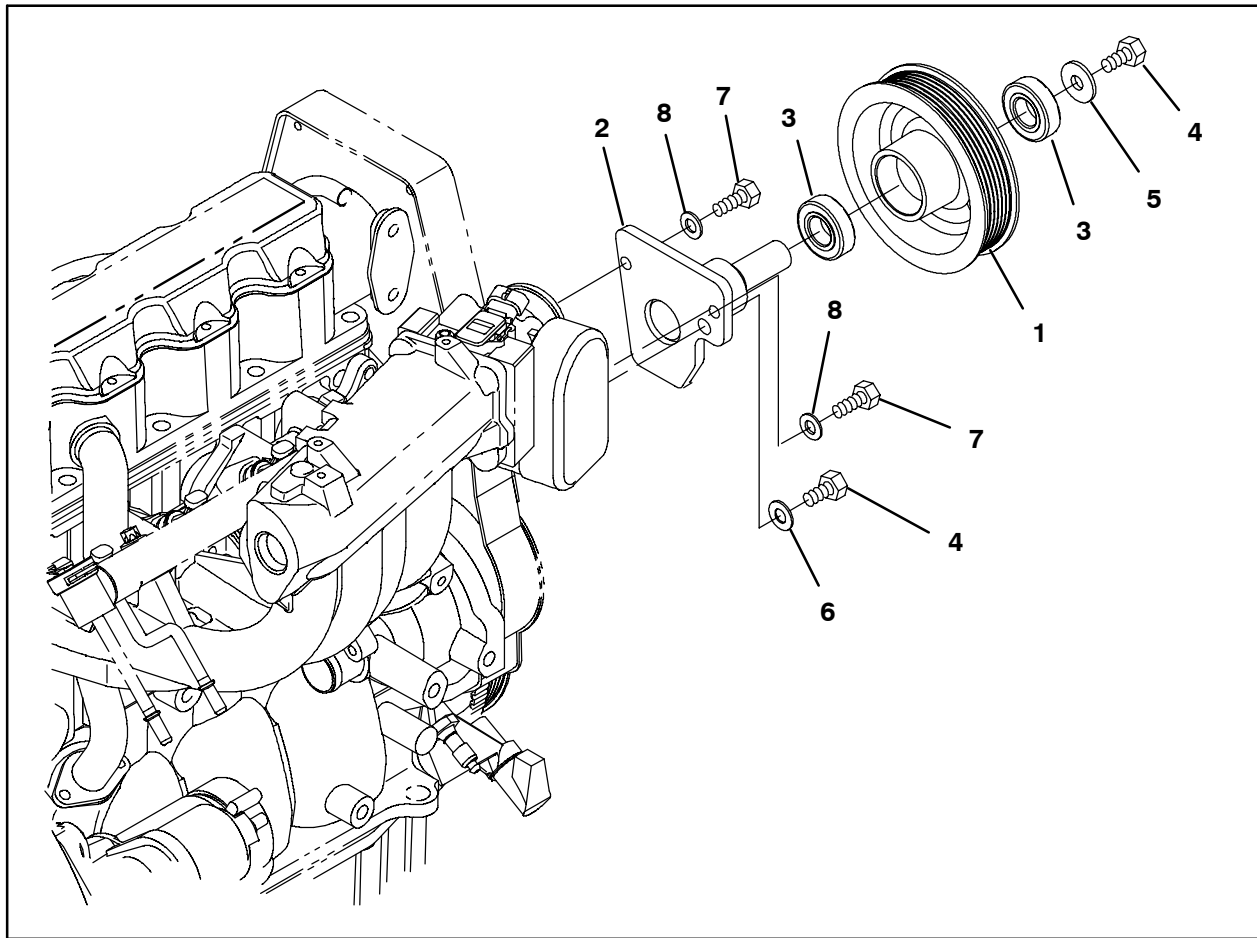

FIG. 2
7. Use a two hex screws (4), one hex screw (7), two flat washers (8), and one flat washer (6) to install the fan hub plate (2) onto the engine. Refer to Fig. 2.
8. Press both ball bearings (3) into the sheave (1). Refer to Fig. 2.
9. Slide the sheave assembly onto the fan hub plate (2). Refer to Fig. 2.
10. Use a hex screw (4) and a flat washer (5) to secure the sheave assembly onto the fan hub plate (2). Refer to Fig. 2.